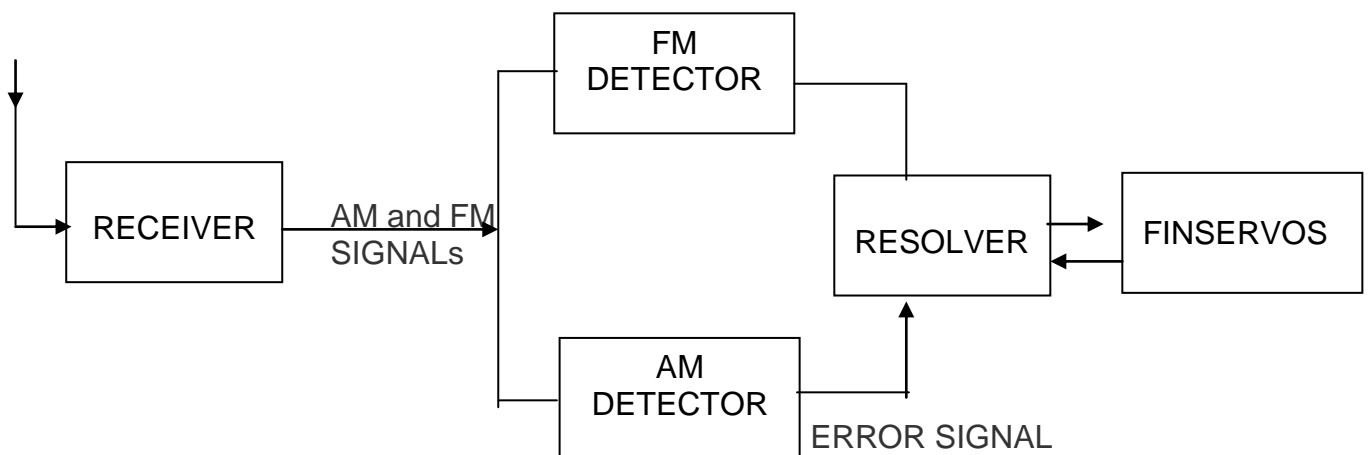

Fig 5 Missile Guidance Receiver
32. The radar axis to be defined within the missile for reference purposes, the radar axis reference signal must be transmitted to the missile. It is convenient to use the guiding beam to sent the reference signal and this is done by pulse position-deduction of the beam, ie a form of frequency modulation. Fig.5 shows that the output of the missile receiver is taken to amplitude and frequency modulation detectors, which respectively produce the error and reference signals.